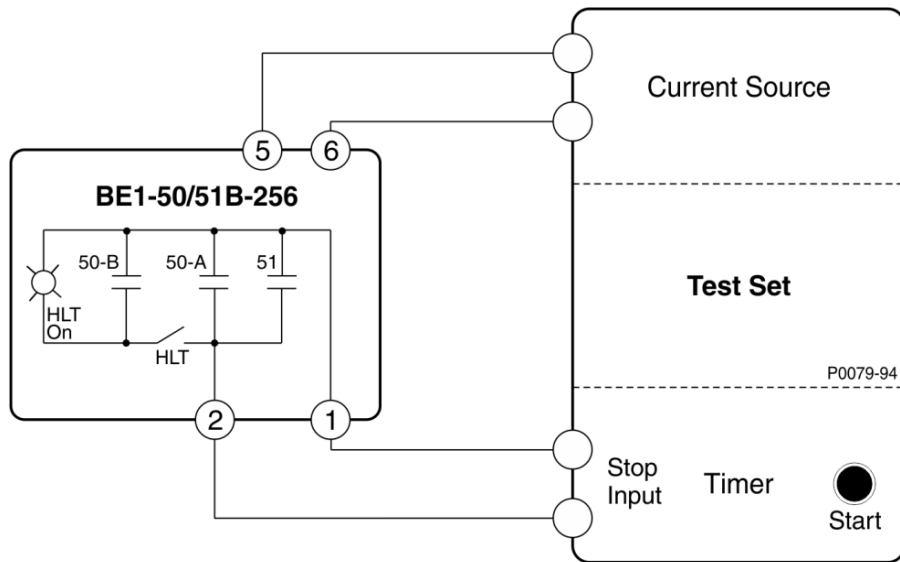

Figure 5-1. 51 Pickup, Time Dial, Integrating Reset, 50-A and 50-B Pickup Test Setup
- a. Connect the test setup shown in Figure 5-1.